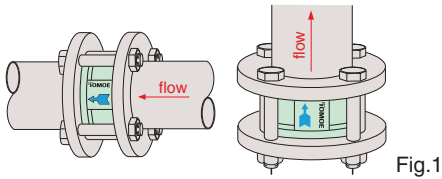

Fig.1
- Install the valve so that the cast marking on the body of the Bata-Check corresponds with the flow direction. (Fig. 1)